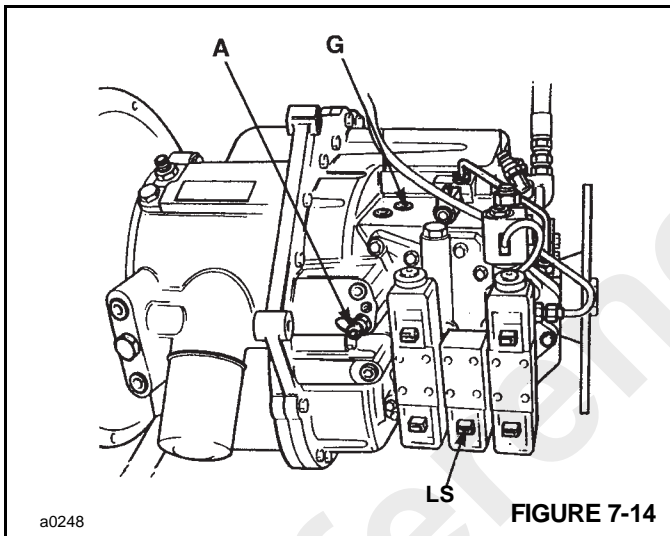

FIGURE 7-14
1. Stop the engine and connect a 0-20 bar (0-300 psi) pressure gauge to test connector **A**, Figure 7-14 (mainline pressure test point).
3. Remove the layshaft clutch solenoid feed connector **LS**, Figure 7-14. This ensures only the reverse high clutch is energized when 2nd gear reverse is selected.